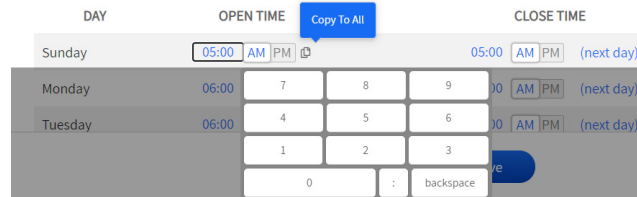

Fig. 1.10
**Time/Value Fields:** Some active areas, such as time fields, are edited by clicking on the field. When you click the cursor or tap in this field, a pop-up keypad also opens (see Fig. 1.10). Use the “backspace” key to clear the field, the number keys to enter a time value, and the colon key to separate hours and minutes. Click “Copy to All” to apply this value to all active fields in the column. A “Warning” dialog will prompt you to Cancel or Confirm. Click “Confirm” to apply.